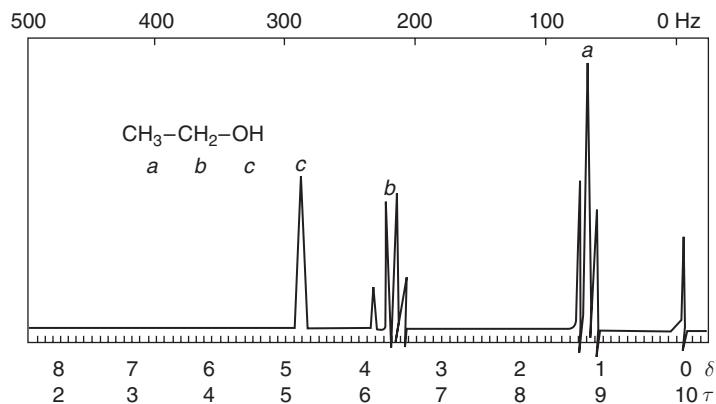

Figure 39 NMR spectrum of ethanol.
3. Ethanol: It has three kinds of protons and three signals can be expected. The NMR spectrum (Figure 39) shows the following three signals.